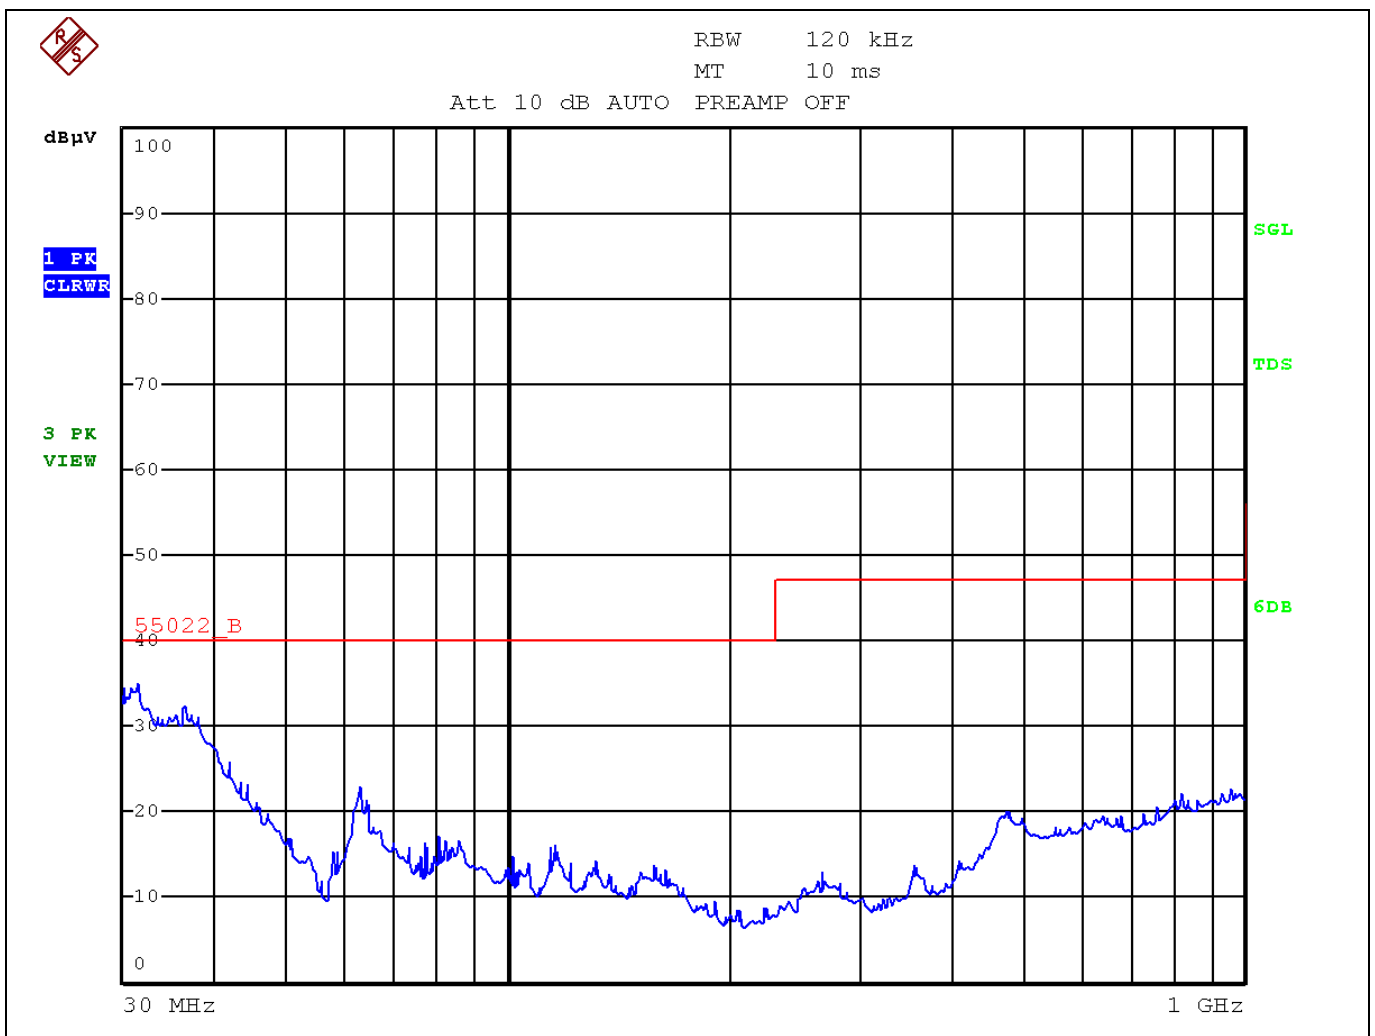

Figure 8 EMI-radiated results for EVK with ferrite filter. Board positioned towards antenna Antenna position is vertical.
- Board was turned 90° clockwise and the antenna was Vertical (Figure 8)